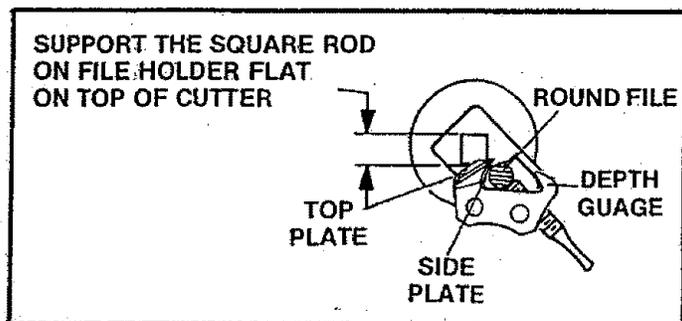

Figure 25
3. Support the square rod on the file holder (with 5/32" round file) on cutter top plate. Figure 25.